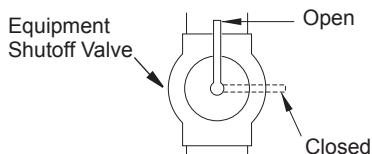

Figure 9 - Equipment Shutoff Valve
1. Close equipment shutoff valve (see Figure 9).
1. Open equipment shutoff valve (see Figure 9).